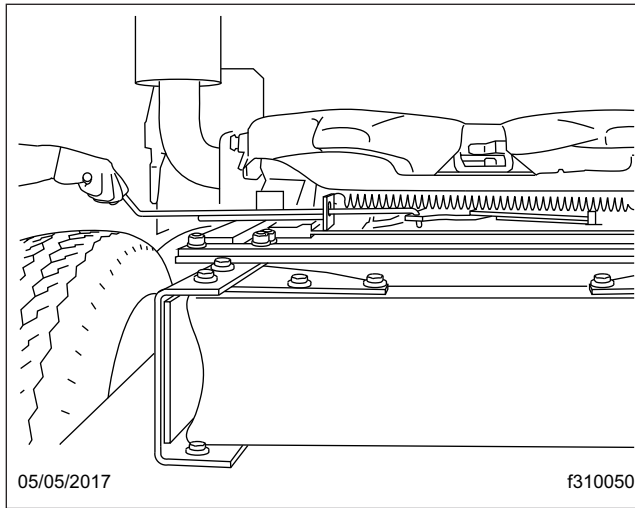

Fig. 17.12, Sliding Fifth Wheel Manual Release, Fontaine
- 2.1 **Fontaine:** Lift the slide release pull handle to disengage it from the guide plate. Then, pull out the handle until it is in the unlocked position and can be positioned against the guide plate to hold it out. The handle will stay in the unlocked position until it is manually disengaged from the guide plate. See Fig. 17.12.